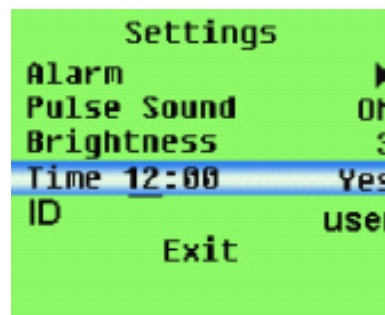

Figure 10.
- b.** When the "Start" is displayed on the menu, if the memory still has the former data in storage, the "Do you really want to recover the memory" dialog box will be displayed when pressing the "menu" button, then press the "up button" or "down button" to choose setting, then press the "menu button" to confirm setting, the dialog box will be displayed as figure 10: It needs to set the starting time for data storage, can change the setting value by pressing the "up button" or "down button", and confirm the setting value by pressing the "menu button", the black cursor will move to next place after setting. When the black cursor moves to "Yes" (store) or "No" (don't store), press the "up button" or "down button" to choose setting, then press the "menu button" to confirm setting.